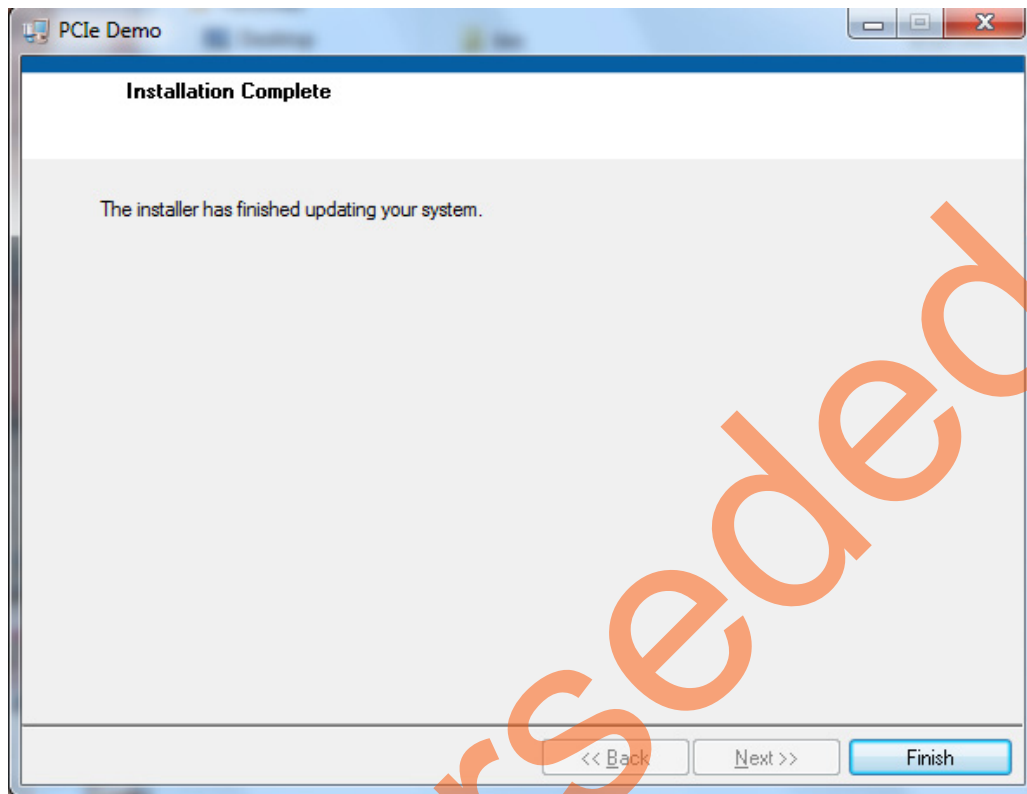

Figure 16 • Successful Installation of GUI
3. Click **Next** to complete the installation. The **Installation Complete** window is displayed as shown in Figure 16.